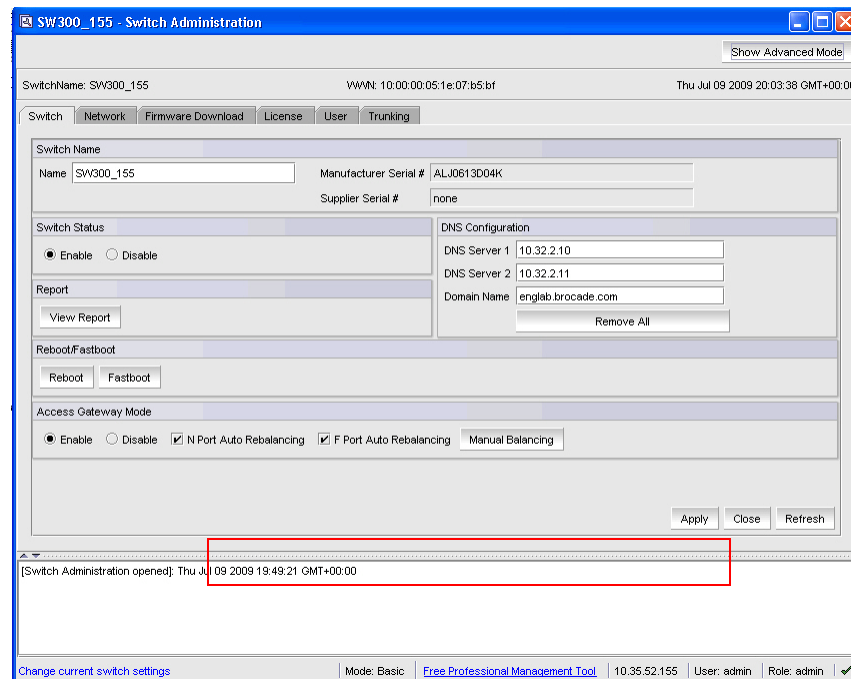

FIGURE 31 Access Gateway Auto Rebalancing
4. In the **Switch Explorer** window, select **Switch Admin**. The **Switch Administration** window displays (Figure 31).